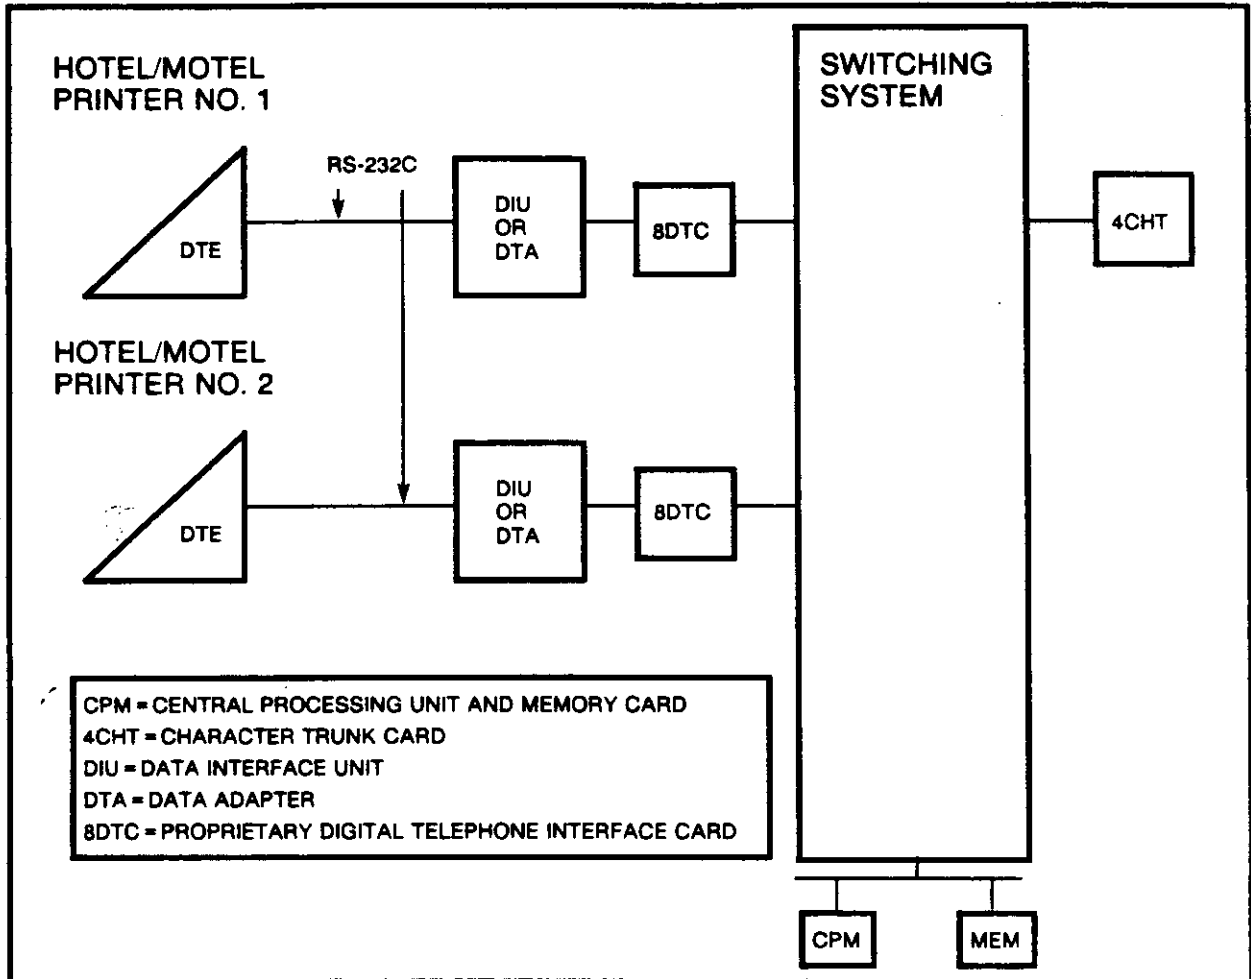

Figure 10.1 Example Hotel/Motel Printer Configuration
10.1.2 An example of how the Hotel/Motel printer(s) are connected to the switching system is shown in Figure 10.1. After the printer(s) is installed, the serial port characteristics must be set to match those of the printers (see TL-120301-1001 Data Base manual).